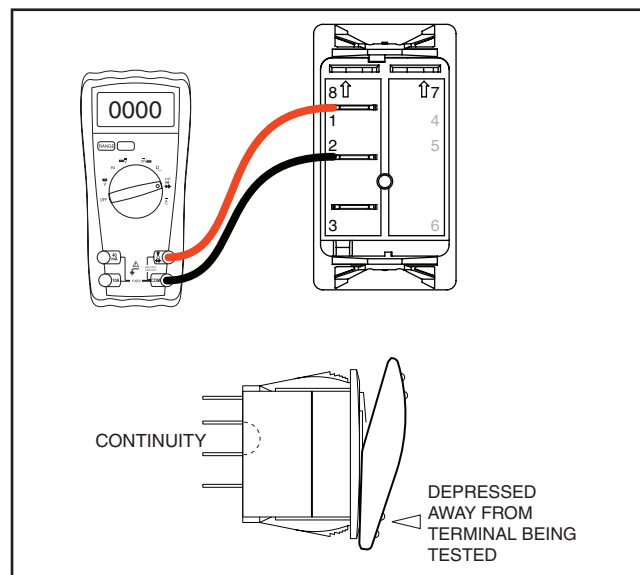

Figure 7-17. – Test 20, Step 5
5. Connect one test lead to the Terminal 1 of SW1 (see Figure 7-17). Connect the other test lead to Terminal 2 of SW1. “Continuity” should be measured.